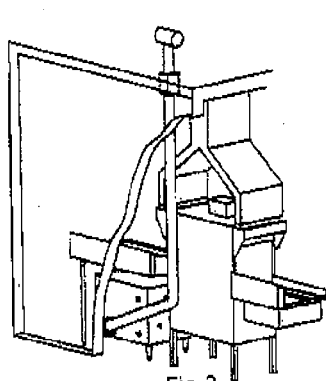
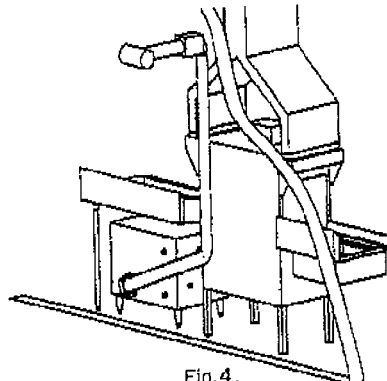

Fig. 3.
Fig. 4.
2. Through the ceiling/roof (see fig. 3) or through a sidewall (see fig. 4). Although not recommended, Type B-1 vent pipe (3 inch min. diameter) may be used only when venting vertically through the roof, with no horizontal piping, provided a one inch minimum clearance to combustible material is maintained throughout and the vent terminates into a listed wind cap above the roof. Contact the factory for approval and important details. The PowerMax™ **MUST NOT** be common-vented with any other appliance. In most cases, the factory recommends using AL29-4C S.S. or 316Ti (titanium stabilized) S.S. or polypropylene sealed venting materials for corrosion protection of the venting system. Use of cellular core PVC (ASTM F891), cellular core CPVC, or Radel® (polyphenylsulfone) in nonmetallic venting systems is prohibited. Covering non-metallic vent pipe and fittings with thermal insulation is prohibited. **SOLID-CORE PRESSURE PVC** pipe may be used beyond any possible impact areas in certain specific circumstances. Call Factory for approval and important details.